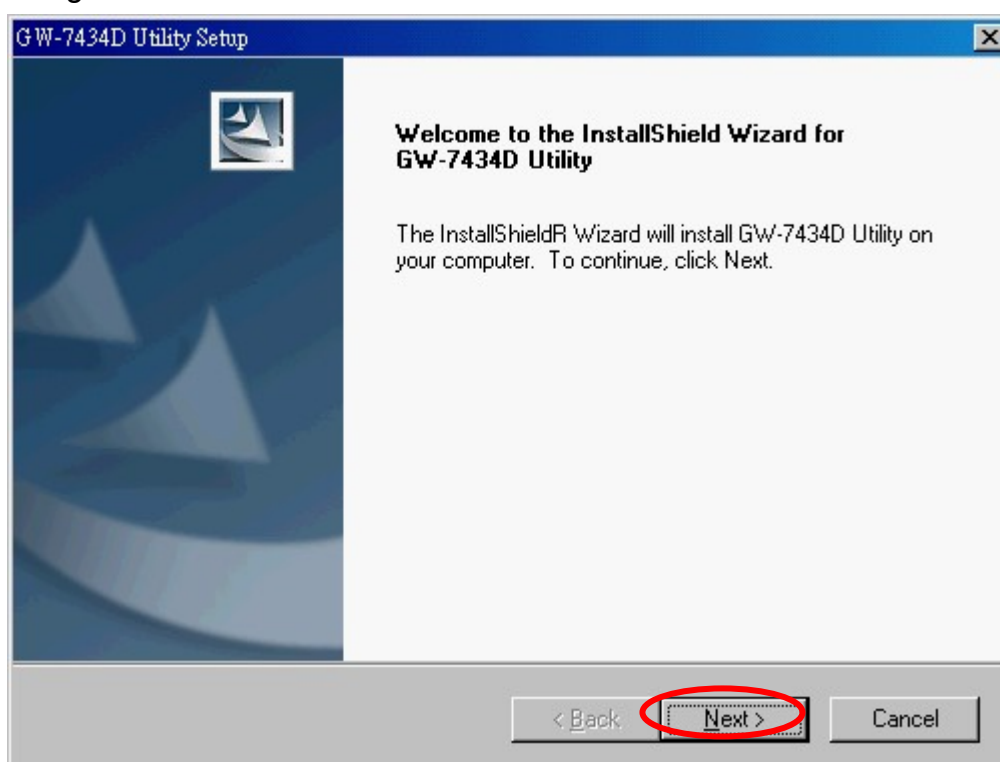

Figure 5-2: Welcome dialog
Step 3: A "Welcome" window pops up to prompt user to begin the installation. See figure 5-2.